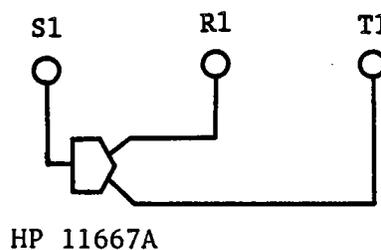

Figure 2-19. Magnitude Ratio/Phase Frequency Response Test Setup (1 of 3)
2. Connect the cables and the Power Splitter associated with the Adapter to the HP 4195A as shown in Figure 2-19.